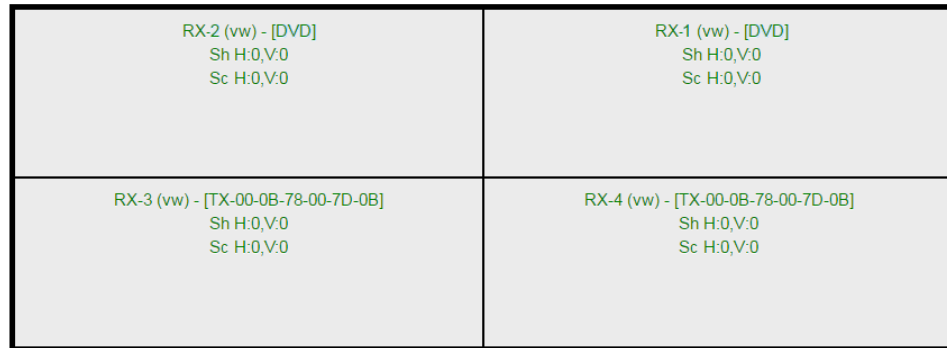

Figure 105: Video Wall Tab – Fully Source Mapped Video Wall
- The user maps some or all sources to all cells. The display pane then becomes fully source mapped (Figure 105).